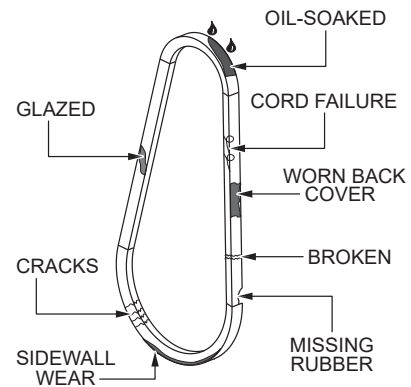

Figure 60. V-Belt Inspection
- Inspect the V-belt (Figure 60) to determine if it is frayed, peeling, full of tiny cracks, has pieces of rubber missing, or is otherwise damaged.
- Inspect the V-belt (Figure 60) to determine if it is oil-soaked or *glazed* (a hard, shiny appearance on the sides of the belt). Either of these conditions can cause overheating of the belt, which can weaken the belt and increase the possibility of it breaking.